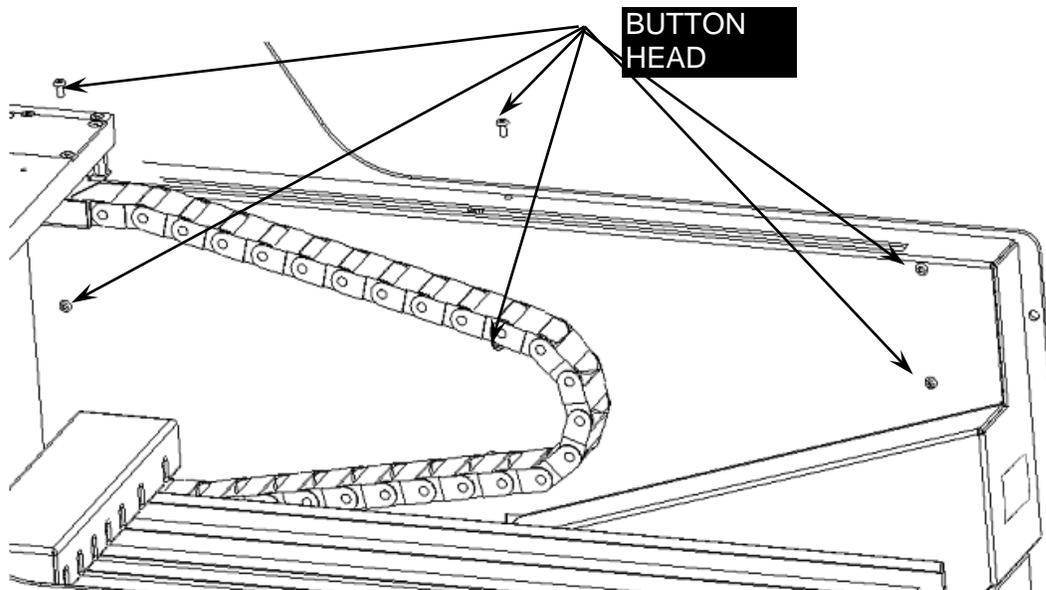

Figure 9-2: Button Head Screws
1. Remove the Button Head Screws (Figure 9-2).